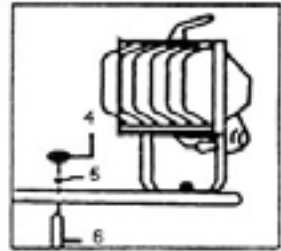

Fig 2
- 3- Mount the crossbar to the top of the telescopic pole by putting a washer on top of the cross bar and tightening the center knob as shown in Fig.2. Be sure not to over tighten the center knob